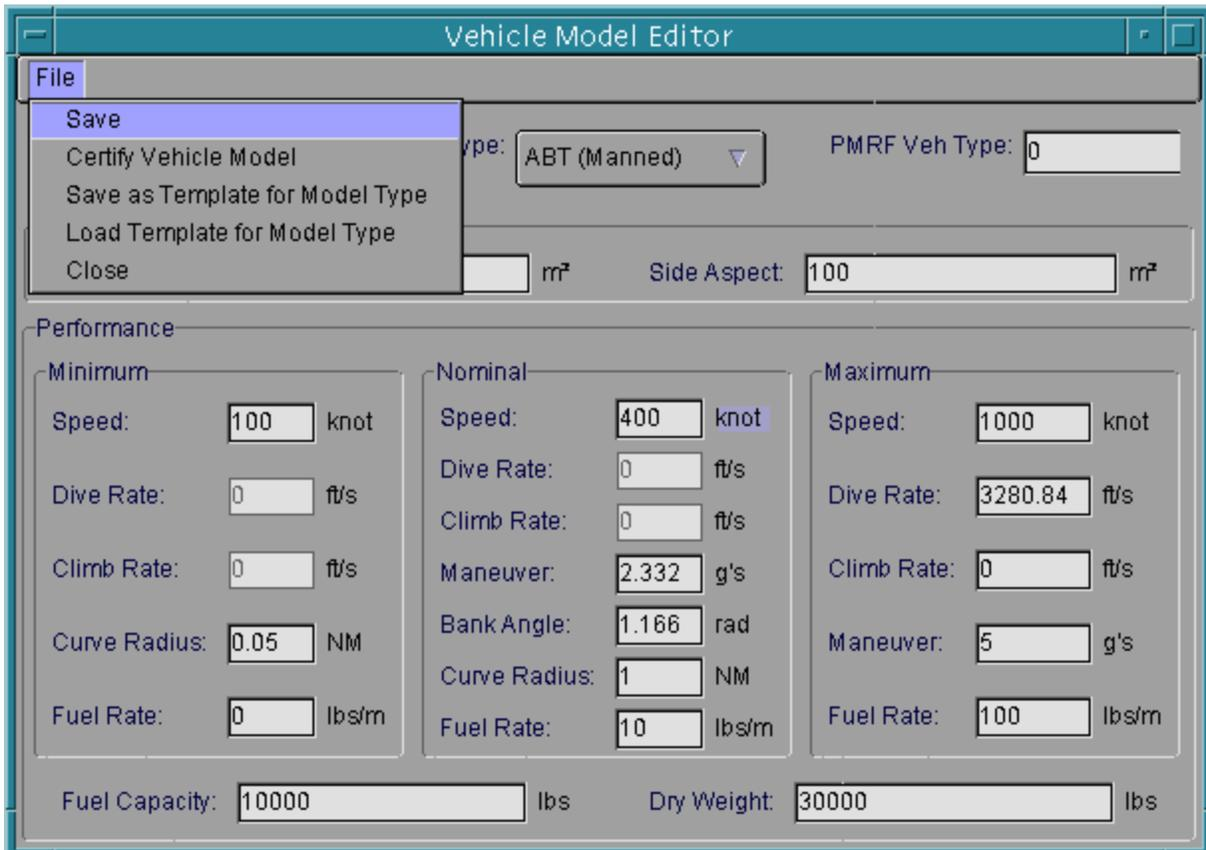

Figure 10. Saving the Vehicle Model
- Noise Figure: 10 dB
To save the vehicle model, select **File** → **Save** (Figure 10) from the Vehicle Model Editor menu. The model will be stored in the vehicle model working directory, and will be accessible for subsequent vehicle model modification or vehicle entity creation.